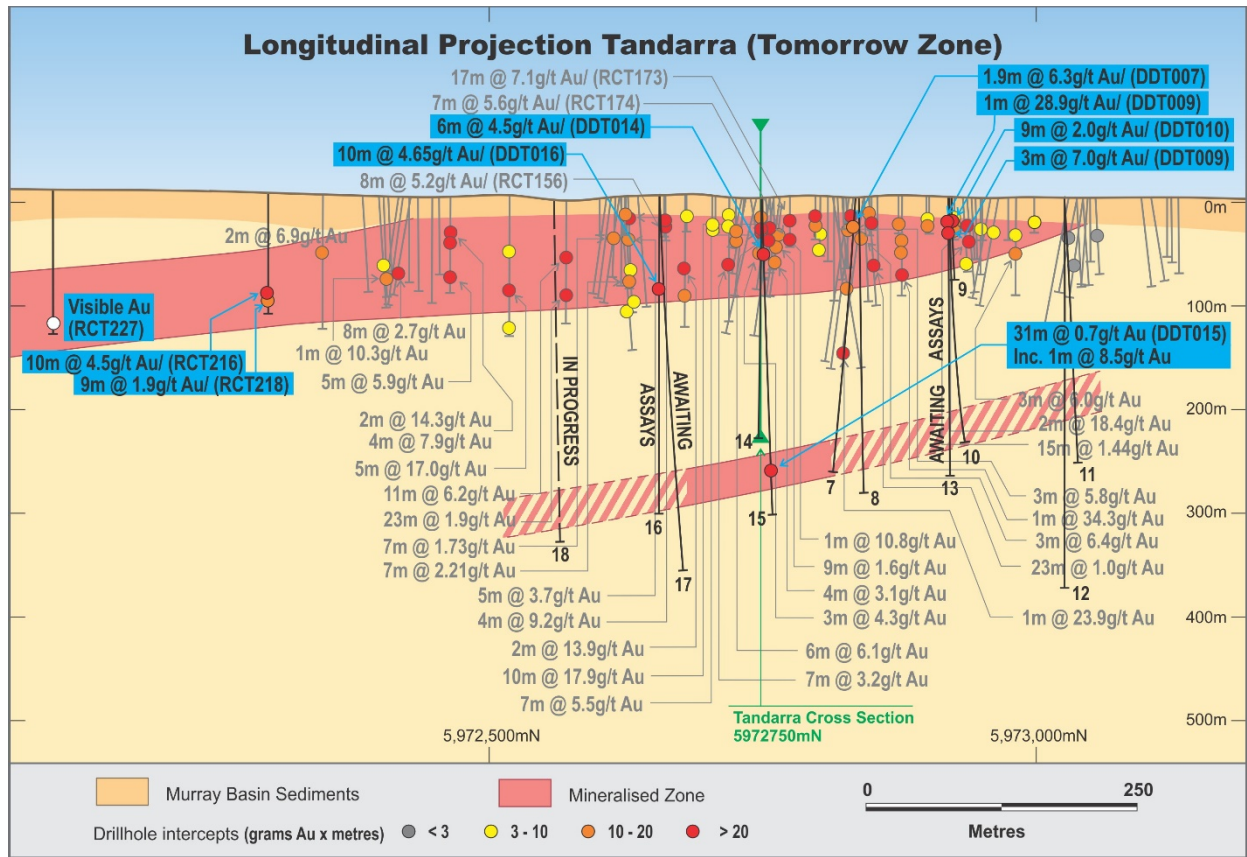

Figure 6: Longitudinal Projection of Tomorrow Zone showing location of Diamond and RC Drilling
- One diamond drill hole (DDH018) was drilled at the southern end of the Tomorrow Zone and was completed at 355.6 metres depth. The hole is awaiting logging, sampling and assaying (Figure 6).